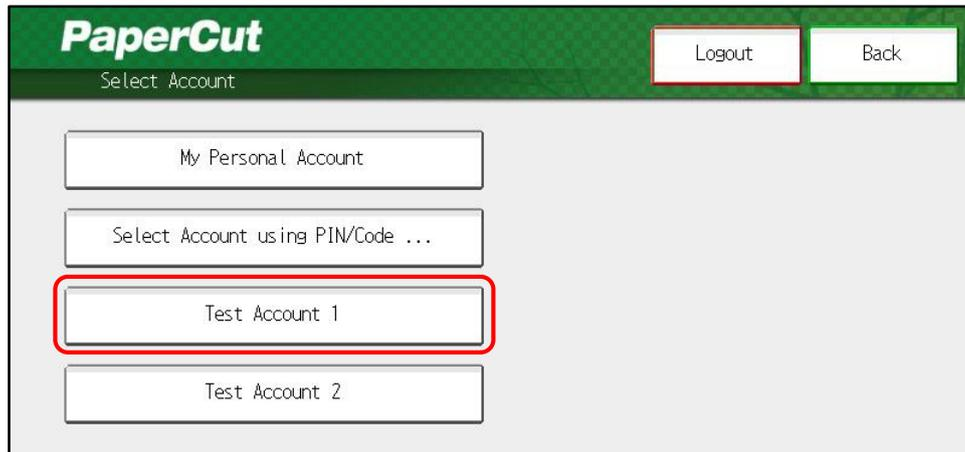

Figure 19: Selecting an account.
2. The screen will display the account selection options (see Figure 19). Select the account to allocate copying to, e.g. **Test Account 1**.